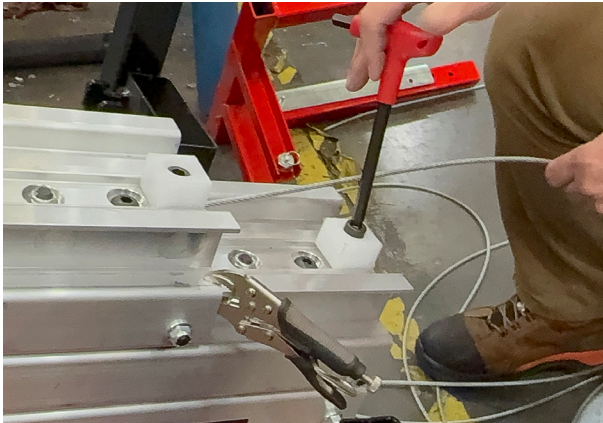

Figure 4-10: Clamping Mast Section and Removing Bottom Slide Block
19. Pull the top of mast up to expose the bottom slide block on the second mast section. Use locking pliers to lock and hold the front mast in place (see Figure 4-10).
20. Remove the second mast's bottom slide block using a **3/8 in. hex wrench** (see Figure 4-10).
28. Pull the top of the second mast up to expose the bottom slide block on the third mast section. Use locking pliers to lock and hold the second mast in place (see Figure 4-10).
29. Remove the third mast's bottom slide block using a **3/8 in. hex wrench** (see Figure 4-10).
37. Pull the top of the second mast up (model JML-12S only) or the third mast up (model JML-16S only) to expose the bottom slide block on the rear mast section. Use locking pliers to lock and hold the mast in place (see Figure 4-10).
38. Remove the rear mast's bottom slide block using a **3/8 in. hex wrench** (see Figure 4-10).